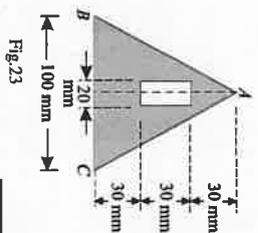

Fig. 23
- 8 A rectangular hole is made in a triangular section as shown in Fig. 23. Determine the moment of inertia of the section about X-X axis passing through its centre of gravity and the base BC